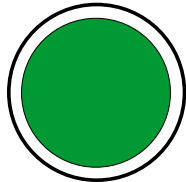

Figure 62. Contactor Open Lamp
3. Verify that the **OPEN** contactor lamp (Figure 62) is lit (**GREEN**).